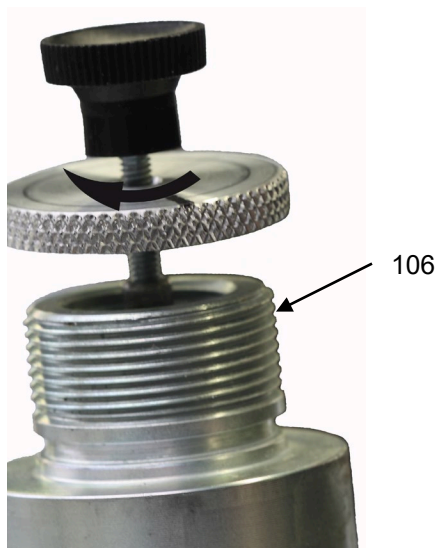

Fig. 4
of the housing (106) (fig. 4).
Fig.4 option pressure switch